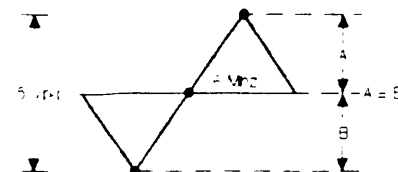

Fig 8.
- 2: Adjust T103 so that sound carrier is centered as in Fig.8.
- 3: Confirm the waveform as in Fig.8. NOTE: Input Level: 90dB.